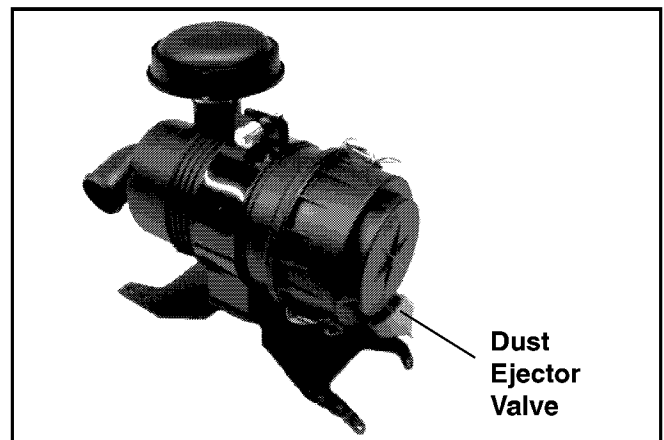

Figure 15. Heavy-Duty Air Cleaner Assembly.
- Reinstall the end cap so the dust ejector valve is down and secure with the two retaining clips. See Figure 15.